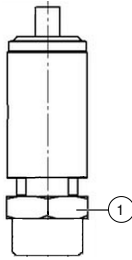
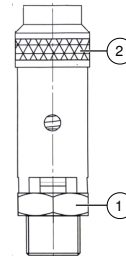

Fig. 26: 1/4" connection safety valve
Fig. 27: 1/2" connection safety valve
2. Open the safety valve for a few seconds by turning the knurled nut (Fig. 27 on page 42) counterclockwise. During this process, the closure of the safety valve opens, whereby the air must escape.
1. Attach an open end spanner to the spanner flat (Fig. 26 on page 42 and Fig. 27 on page 42) and unscrew the safety valve by turning counter-clockwise.